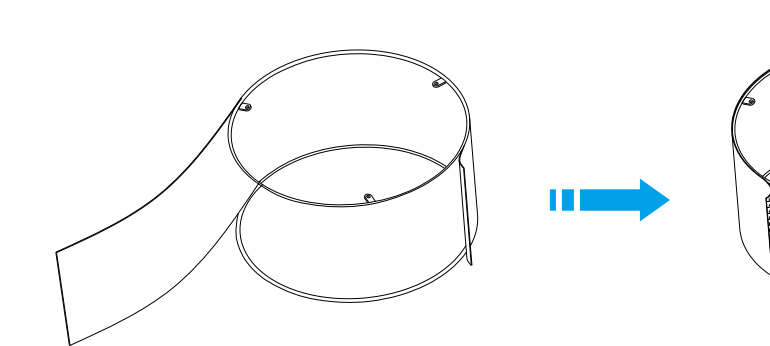

Fig 7.1
7.1 Attach the shade as Fig 7.1.